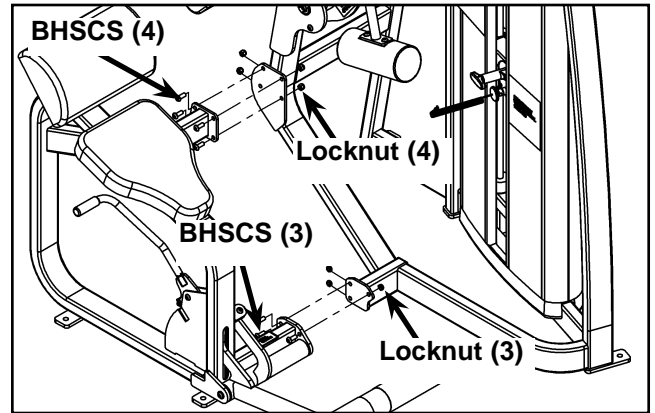

Figure 1
- B. With an assistant, carefully remove the seven Button Head Socket Cap Screws (BHSCS) securing the two halves of the frame. See Figure 1.
- D. With an assistant, carefully attach each half together using the seven BHSCS removed in step 4B. See Figure 1.